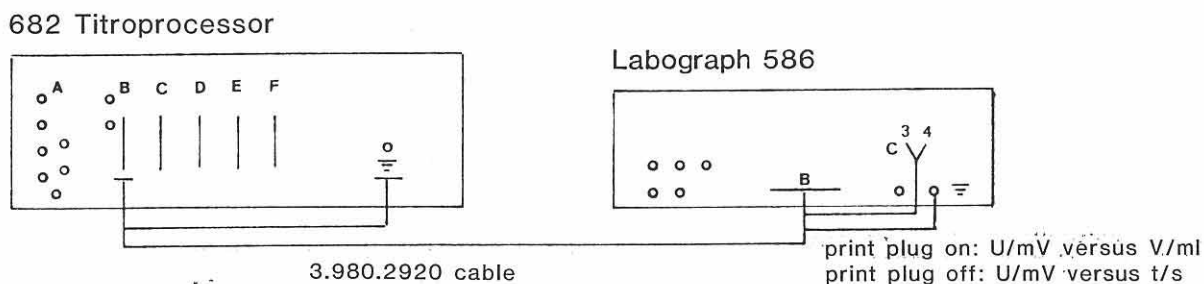

Fig. 4.6
3.540.2191 analogue output interface is available for the connection of 586 Labograph. The interface is inserted in slot B of 682 Titroprocessor and connected to the 586 Labograph as shown in Fig. 4.6.